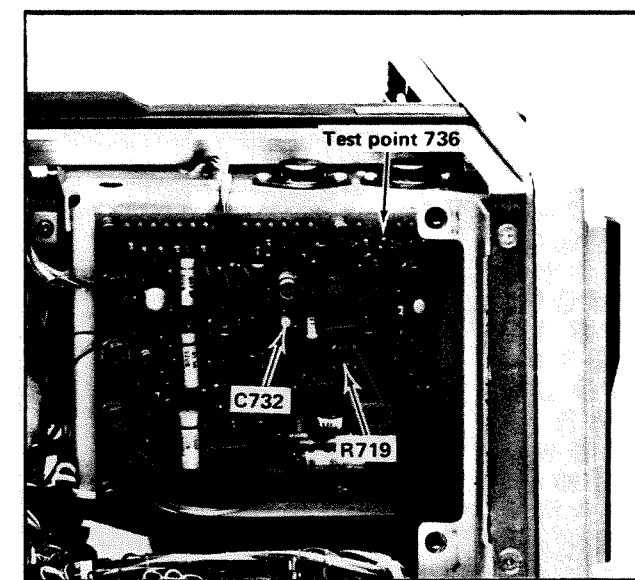

Fig. 5-23. Location of test point 736, C732, and R719.
- g. Turn the VERT TRACE SEPARATION (B) control fully CCW.
- j. Turn the VERT TRACE SEPARATION (B) control fully CW.
- d. Connect the P6053 probe to test point 736 (see Fig. 5-23) on the Z-Axis circuit board.
- f. ADJUST—R719 and C732 (see Fig. 5-23) for optimum square leading corner and a waveform risetime of 30 nanoseconds or less.
- g. ADJUST—R719 and C732 (see Fig. 5-23) for optimum square leading corner and a waveform risetime of 30 nanoseconds or less.